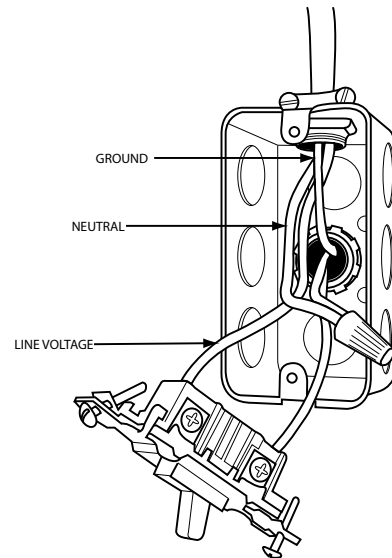

Fig. 35 – External Electrical Box
1. Drill two (2) 1/8-in. (3 mm) pilot holes through the dimples in the furnace casing near the 7/8-in. knock-out on the side of the casing. Do not remove the knock-out in the side of the casing.
9. Connect field power and neutral leads to furnace power leads inside the external electrical box as shown in Fig. 35.